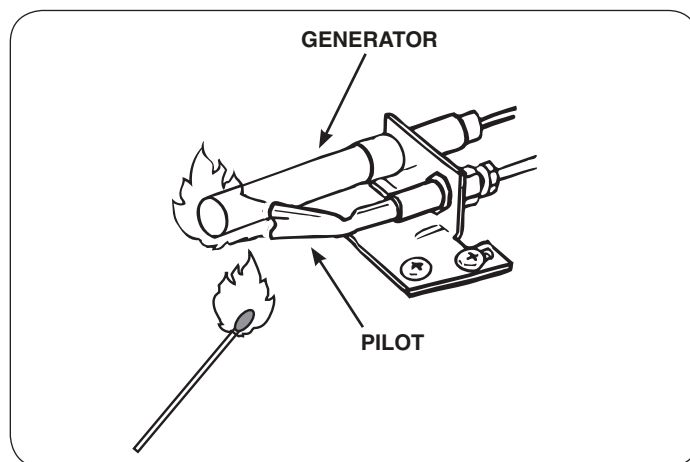

Fig. 5-1 Lighting the pilot
- The pilot flame should encircle the generator tip which is present at the factory (see Fig. 5-1). Ordinarily, the pilot will not require field adjustment.